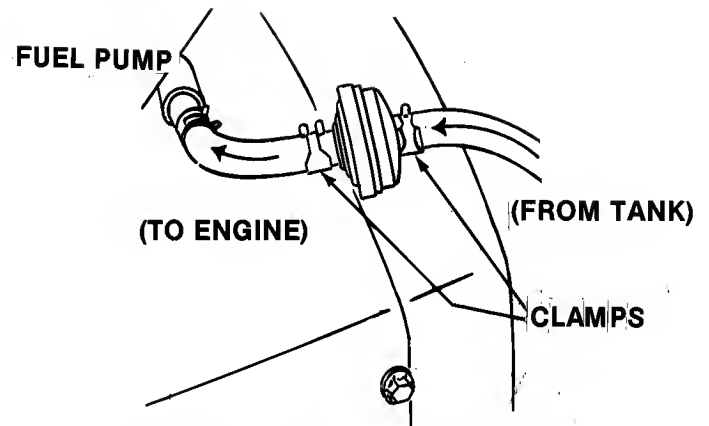

FIG. 19 - FUEL FILTER LOCATION
- **SERVICE FUEL FILTER:** as instructed on page 9, FIG. 19.
The In-line filter (between fuel tank and engine) protects the engine from damage due to gasoline impurities. Also, check the hose clamps for any leakage. Replace the filter (SNAPPER #1-4359) before the screen becomes completely clogged with sediment. When the filter appears dark (in the screen area), and/or if the engine becomes "starved" for fuel - it will not accelerate properly, misses, or stalls under load, the filter should be replaced. Refer to FIG. 19.